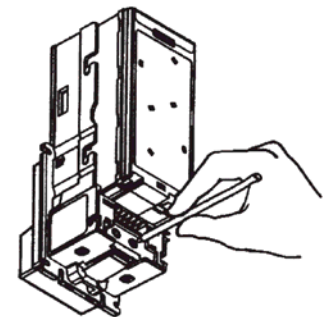

Figure 4
3. Locate the service button on the back of the unit (refer to Figure 4). Depress the button once to enter coupon set-up mode. Depressing again will exit the mode.